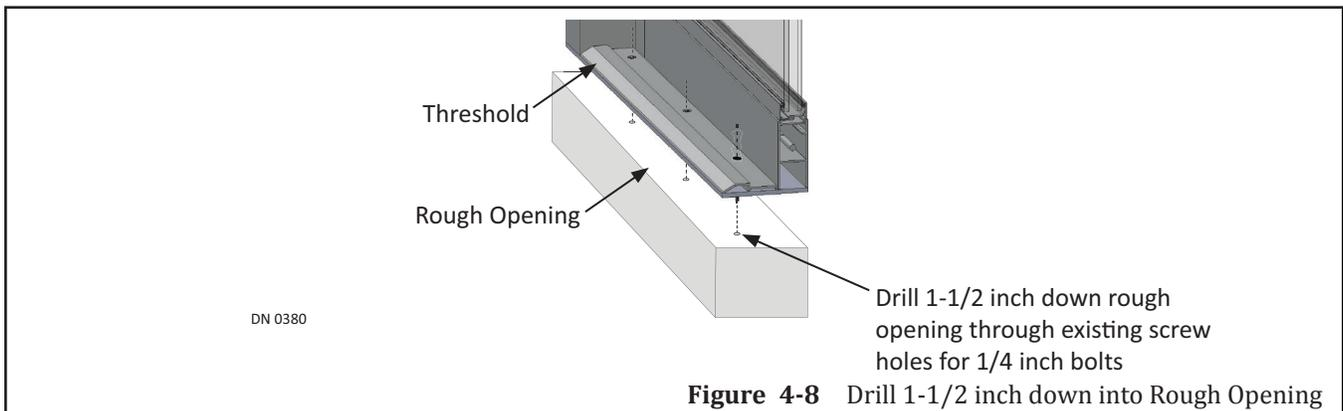

**Figure 4-6** Drill and Secure Header
10. Secure the Header with 1/4 inch diameter fasteners. Please see Figure 4-6.